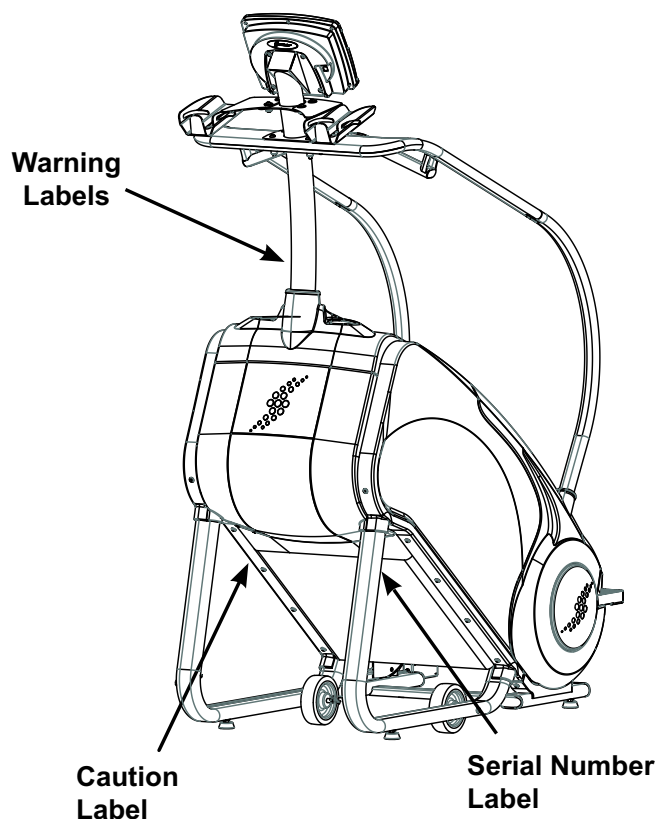

Figure 1
**Location:** Affixed to the lower sides of the mast (see Figure 1).
**Location:** Affixed to the backside of the leg on the StepMill machine (see Figure 1).